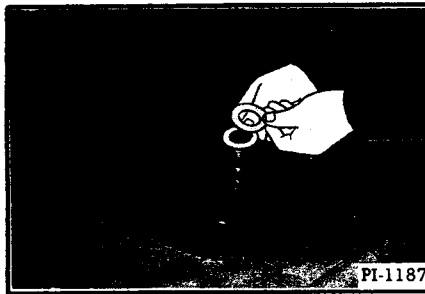

Fig. 92 Installing Outside Thrust Washers
8. Install the outside thrust washers (Figure 92).